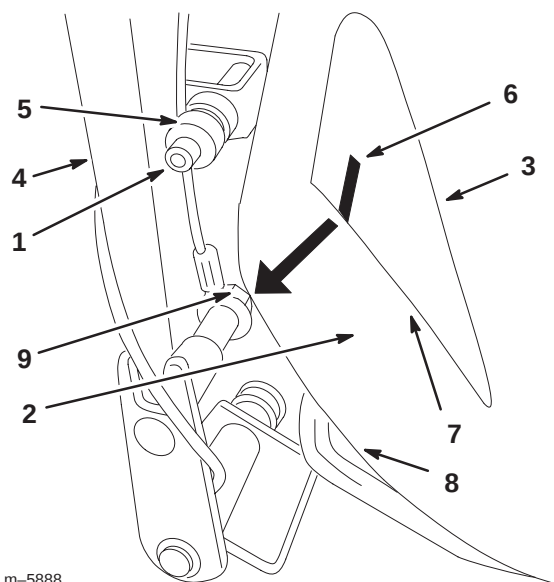

Figure 13
4. Remove the cable guide and bolt from the frame of the bagger (Fig. 13).
5. Install the cable guide, bolt, and nut with the cable behind the cable guide (Fig. 13).
6. Locate template number 1 in the back of this manual. Cut out template number 1 as indicated on the template (Fig. 13).
7. Position the template on the right-hand side of the engine shroud (Fig. 13).
8. Line up the mark on the template where the cable bolt hits the engine shroud and the template bottom is flush with the bottom of shroud (Fig. 13).
9. Tape the template to the engine shroud. Mark the outer edge of the template. (Fig. 13).
10. Cut the engine shroud at the marked line. This will prevent damage to the engine shroud while using the bagger lever (Fig. 13).